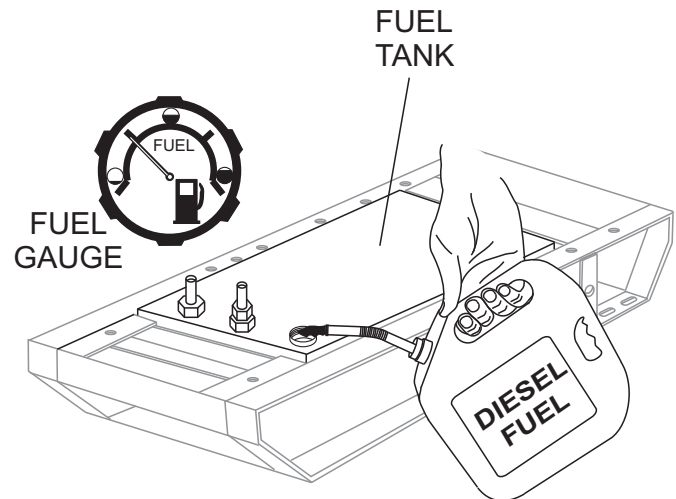

Figure 11. Refueling (Skid)
5. If using a skid mounted pump (Figure 11), read the fuel gauge located at the front of the fuel tank. If fuel level is low, remove the fuel cap and fill with recommended type diesel fuel. **DO NOT** fill the tank beyond capacity